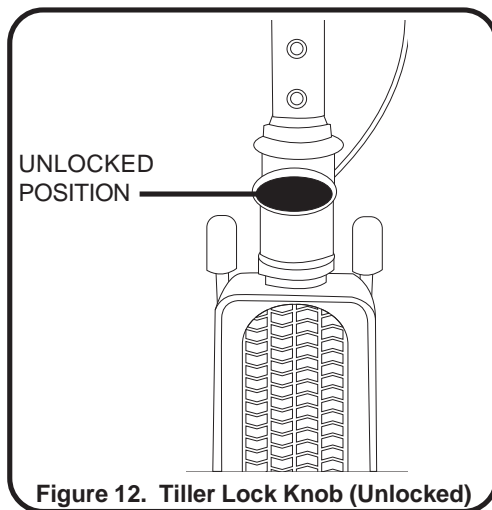
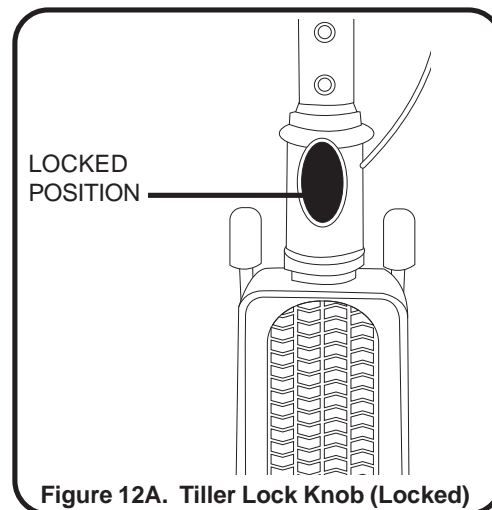

Figure 12. Tiller Lock Knob (Unlocked)
Figure 12A. Tiller Lock Knob (Locked)
1. From the unlocked position (see figure 12), lock the front wheel by pushing the tiller lock knob in and turning it clockwise 90°. See figure 12A.
WARNING! Before getting onto your scooter always check that the tiller lock knob is in the unlocked position. See figure 12. Attempting to ride your scooter with the tiller lock knob in the locked position can result in personal injury.
9. Unlock the front wheel by turning the tiller lock knob 90° counterclockwise. **See figure 12.**